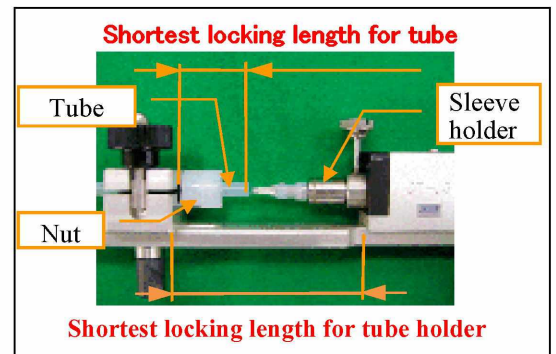

Fig. 33 - Shortest locking length
- Loosen the knob located at the bottom of the tube holder and then lock the tube holder at its shortest locking length.(See Fig.33 and Table 15)
- Open the clamp and install the tube with union nut passing through it in the tube holder so that the shortest locking length for the tube. (see Fig.33 and Table 15)